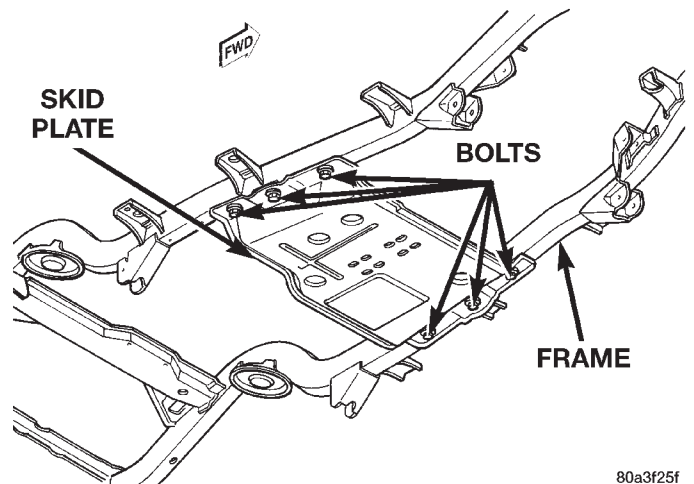

Fig. 6 Transfer Case Skid Plate
- (4) Remove the bolts attaching the skid plate to the frame (Fig. 6).
- (5) Separate the skid plate from the vehicle.